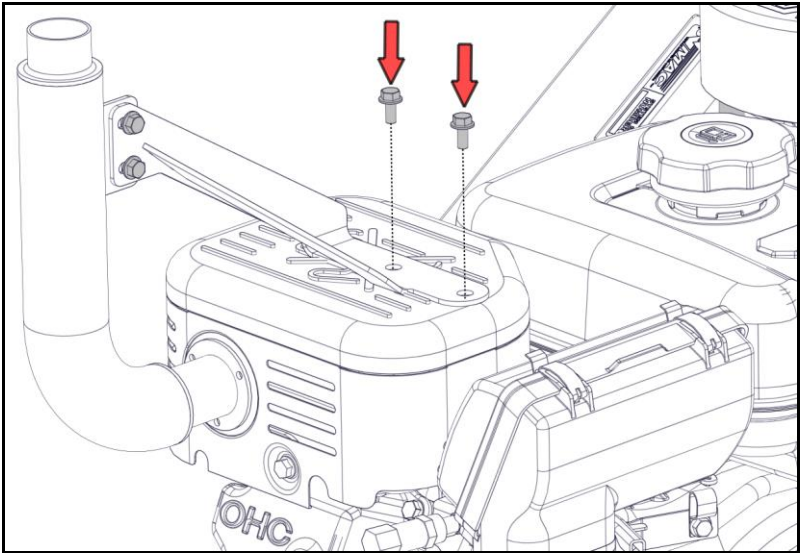

Figure 6 – Top resonator bracket bolts
- Apply blue Loctite® and install the two supplied M6 x 14 bolts through the top bracket into the exhaust heat shield holes finger tight, **do not torque at this time** (Figure 6).